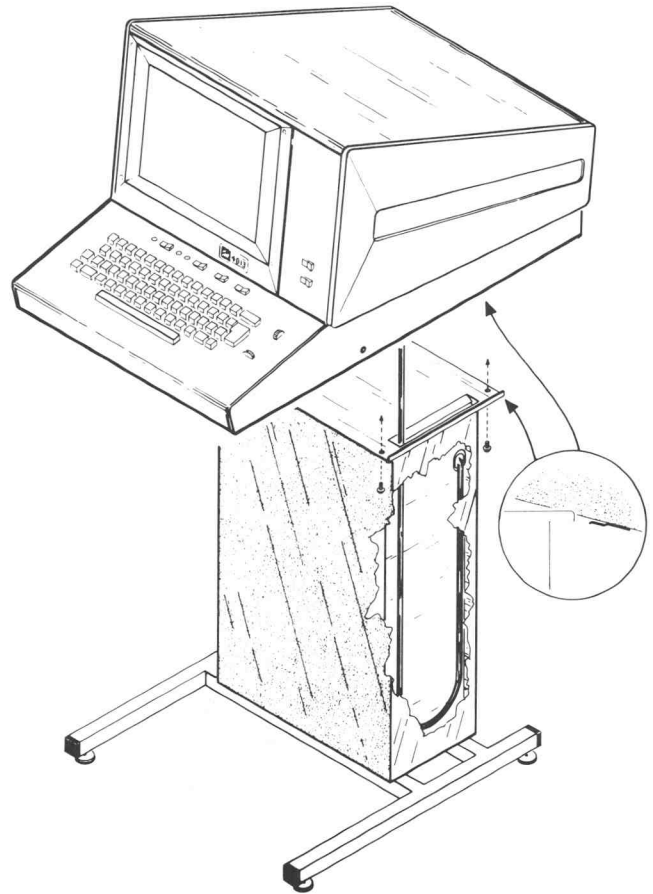

Fig. A-1. Display Mounting.
2. Lift the display unit over the pedestal as shown in Fig. A-1.